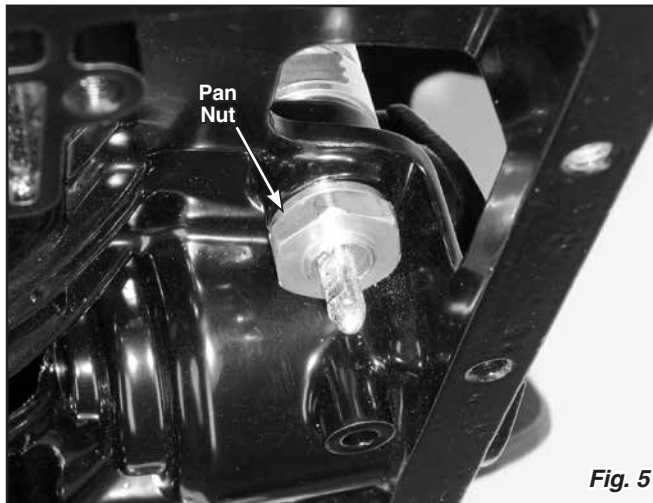

Fig. 5
Step 4: Remove the pan nut from the pan fitting. Lubricate the rubber push-in grommet with clean transmission fluid. Install the pan fitting and rubber push-in grommet (as received) into the transmission. (This should be a tight fit). Screw the pan nut onto the pan fitting and torque to 20 inch-pounds. **Do Not Overtighten! Fig. 5**